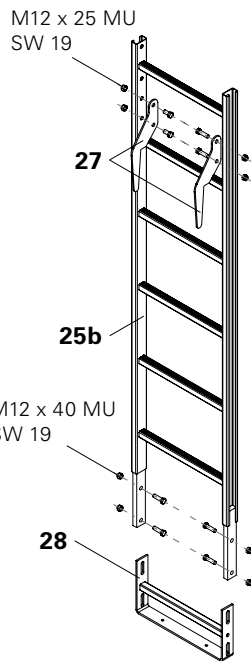

Fig. B2.02
- Fix ladder hook (27) to Ladder 180/6 (25b) at the top using Bolts and Nuts M12 x 25. (Fig. B2.02)